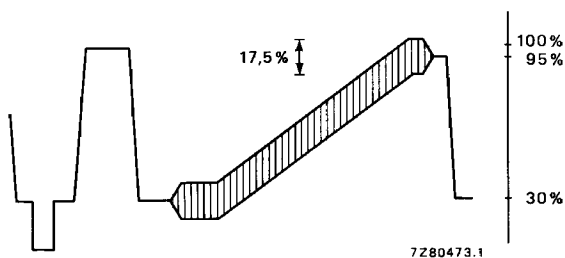

Fig. 3 Video output signal.
- Measured according the test line shown in Fig. 3: